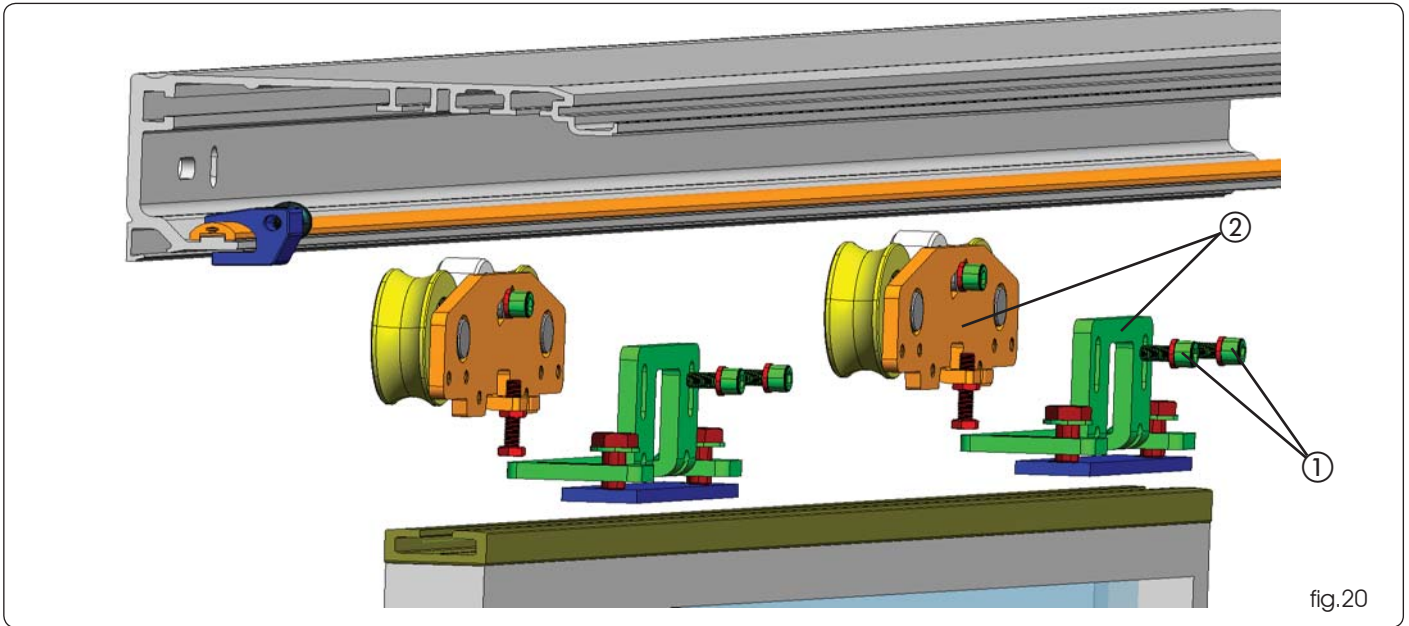

fig.20
Disassemble the carriage by withdrawing the upper and lower plate of the carriage fig.20 ref. ② and removing the 2 fastening screws M6 fig.20 ref. ①.